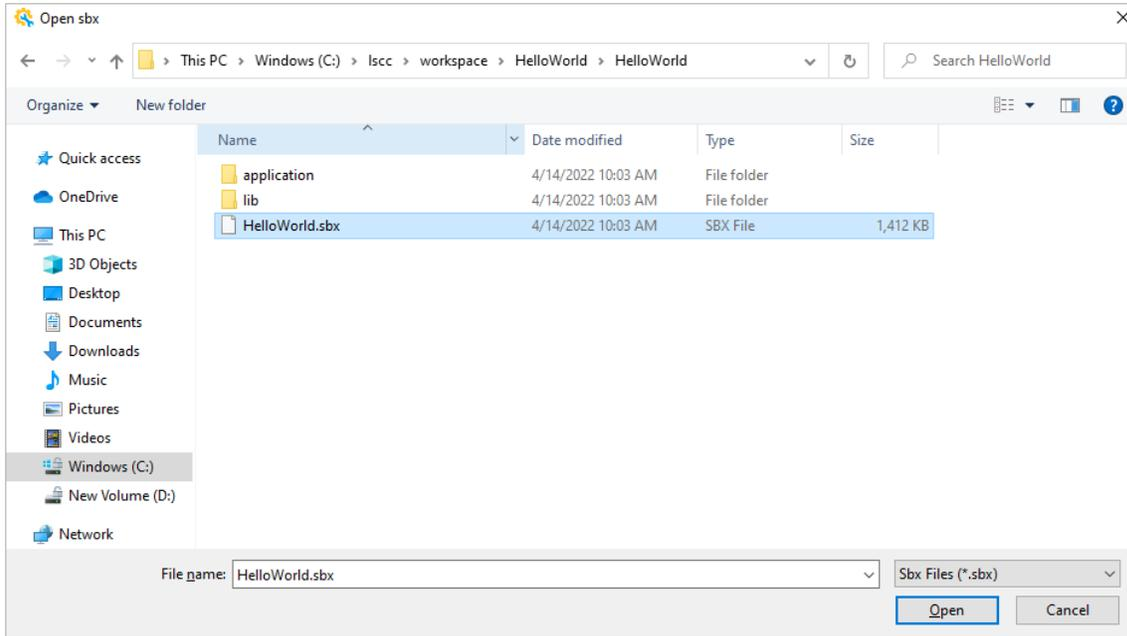

Figure 2.17. Open HelloWorld Project
2. Browse to find the default project workspace folder or your own project workspace folder. Choose the sbx file, such as HelloWorld.sbx (Figure 2.17).